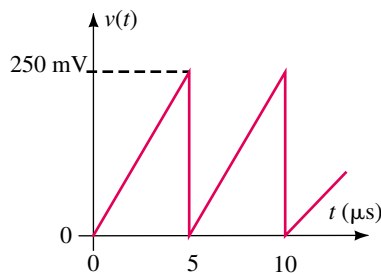

FIGURE 25-53
8. Repeat Problem 7 for the waveform of Figure 25-53.